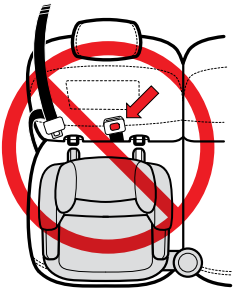
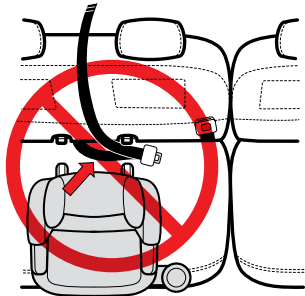

Figure 12
Figure 13
- DO NOT USE THE LATCH CONNECTORS TO SECURE THIS BOOSTER SEAT TO THE VEHICLE'S LATCH ANCHORAGE SYSTEM IF THE SEAT BELT OR SEAT BELT BUCKLE IS NOT EASILY ACCESSIBLE WITH THIS BOOSTER SEAT LATCHED IN PLACE OR IF THE VEHICLE SEAT BELT BUCKLE IS LOCATED IN BETWEEN THE LATCH ANCHORS, AS SHOWN IN **FIGURE 12**. OR IF THE VEHICLE SEAT BELT IS LOCATED IN BETWEEN THE LATCH ANCHORS, AS SHOWN IN **FIGURE 13**.